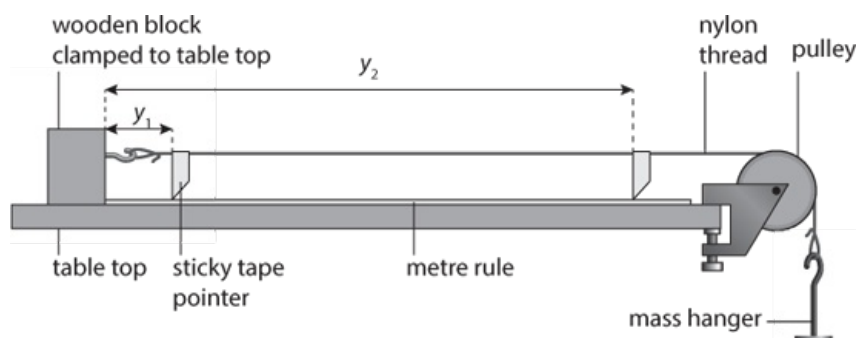

Figure 5.1: Thread over pulley, attached to weight.
- 1 Set up the apparatus as shown in Figure 5.1.